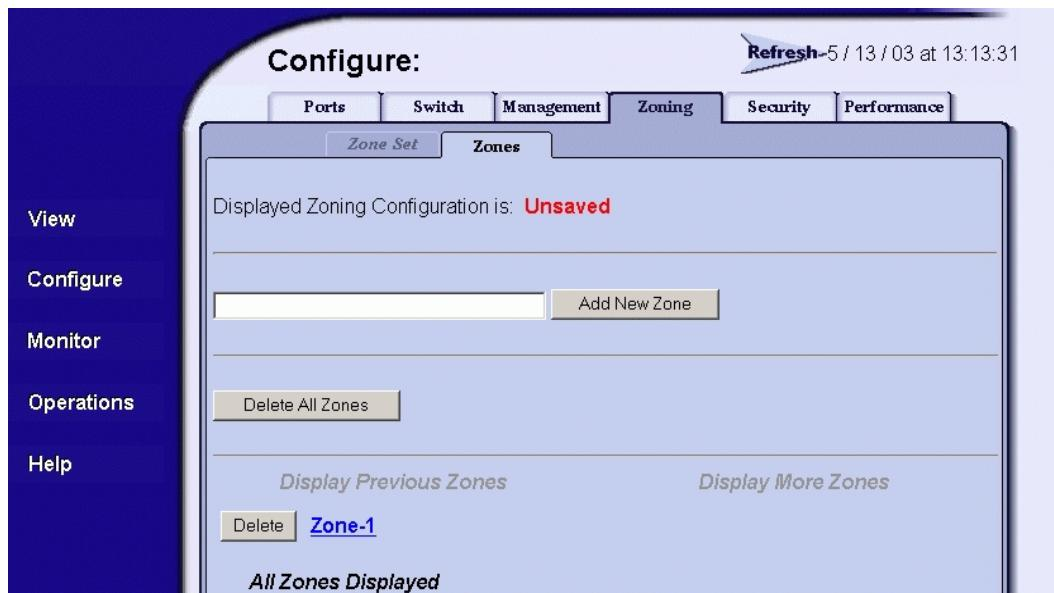

Figure 26: Zoning page—Zones tab
1. At the **Configure** panel, choose **Zoning >Zones** to display the **Zones** tab selected (Figure 26).